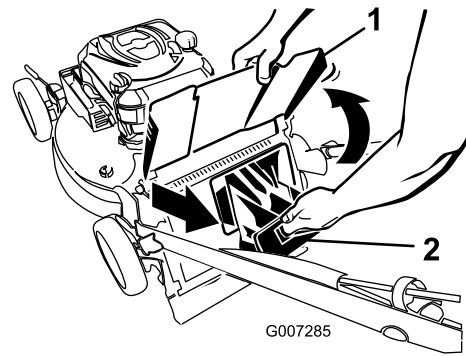

Figure 30
1. Raise and hold up the discharge deflector (Figure 30).
2. Pull out the rear-discharge plug (Figure 30).